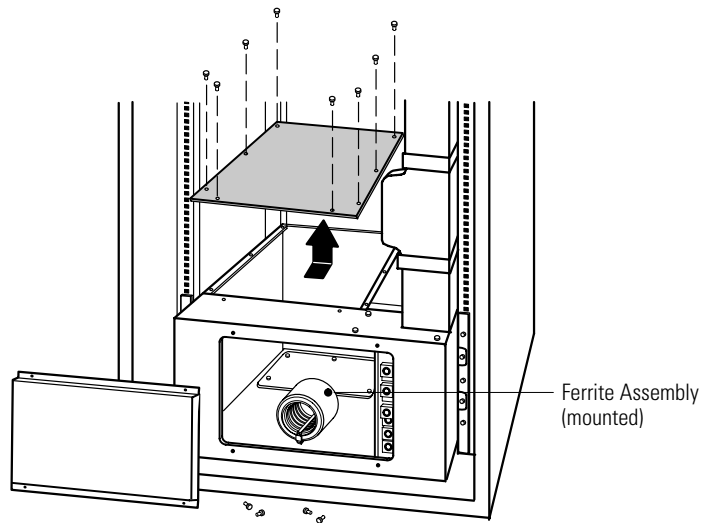
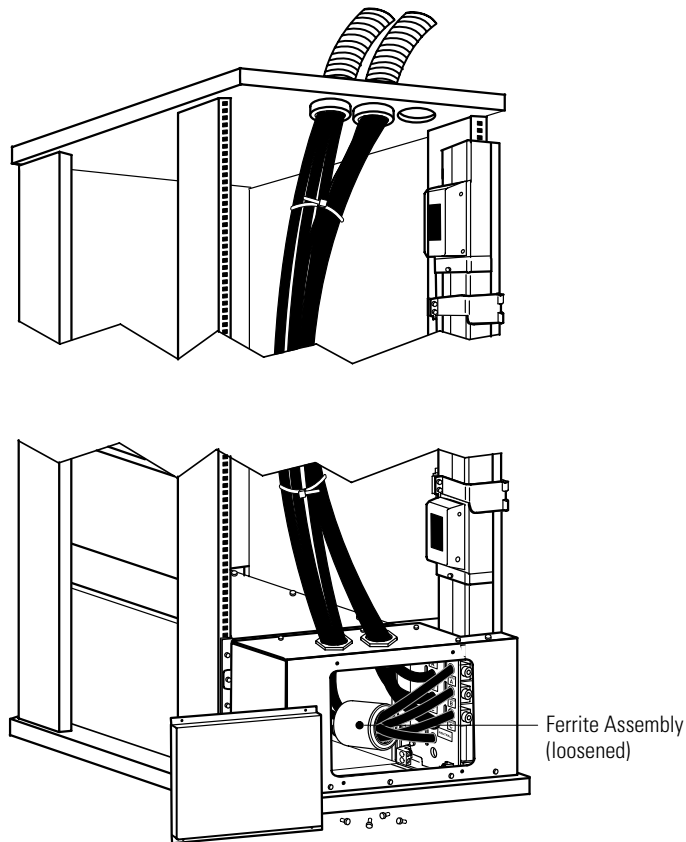
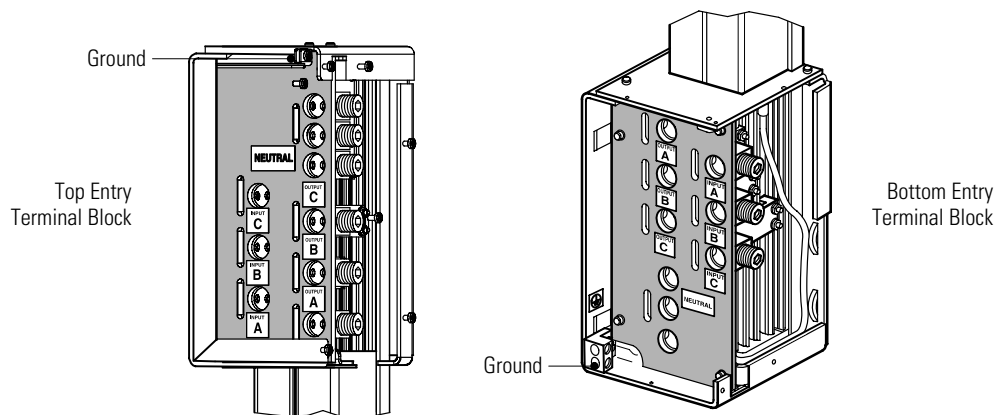

Figure 5. Removing the Wireway Top Cover (Bottom Entry Shown)
Figure 7. Top Entry Wiring in a Bottom Entry Rack
Figure 8. BladeUPS Bar Terminal Block
3. Remove the eight screws on the wireway top cover and retain. Slide the cover back and off the wireway and retain. See Figure 5.
7. **Top entry wiring in a bottom entry rack only.** Use a Greenlee punch to provide one or more holes in the top of the wireway. Install one or more holes in the center rear of the top of the rack. See Figure 7.
8. Connect the input, output, and ground wires to the BladeUPS Bar terminal block according to Figure 8 and Table 2. Route the three input phases and the input neutral through the mounted or loosened ferrite assembly (see Figure 5 or Figure 7).